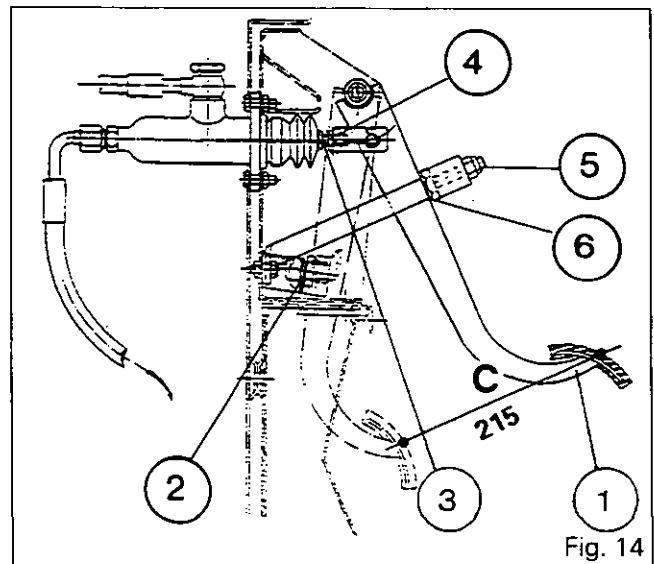

Fig. 14
E. Adjusting the clutch pedal (Fig. 14)
75. Adjust stop screw (5) so that clutch pedal stroke is 215 mm between released (pedal contacting the stopper (2)), and engaged positions. Tighten lock-nut (6). Bring pedal (1) in contact with stop screw (5).